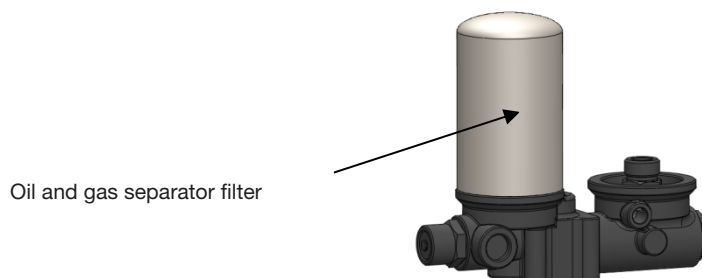

Figure 7
- i. Check, clean, and, if necessary, replace the oil-air separator element, see Figure 7.